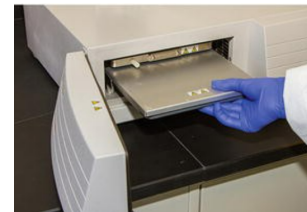

Figure 42: Incubate overnight at 37°C
11. Close hybridization chamber, insert tray into oven, and clamp tray into place. Incubate at 37°C overnight (16 – 18 hours) (Figure 42).